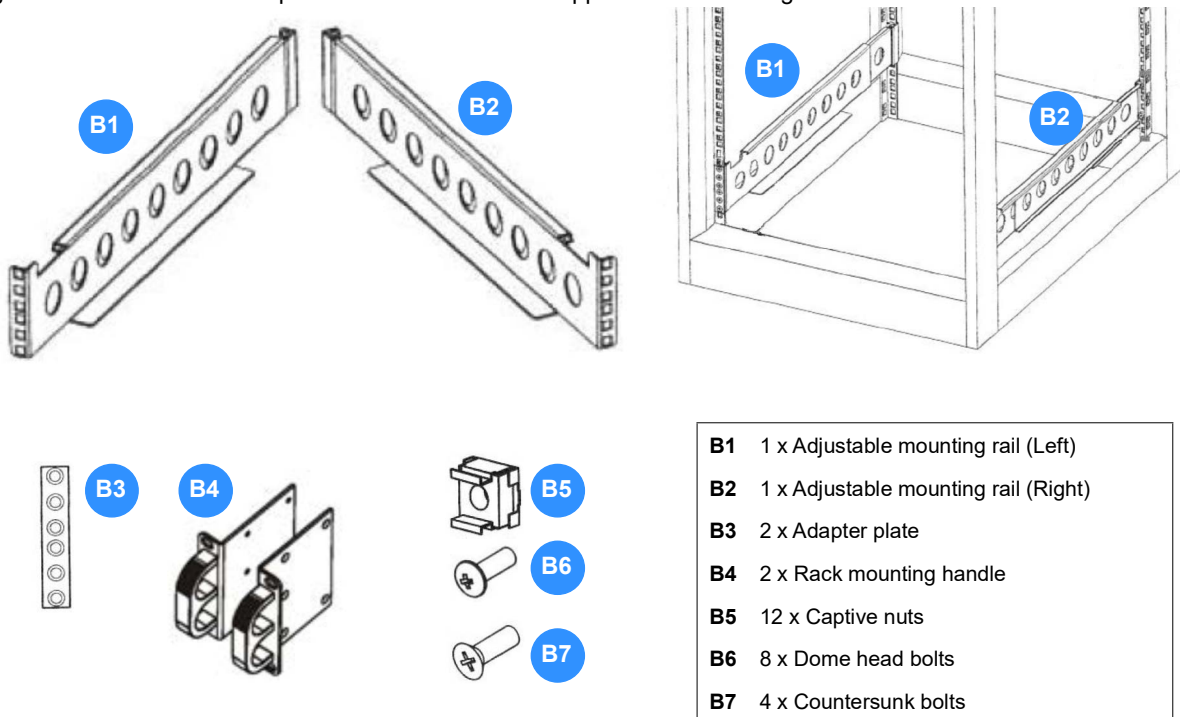

Figure 3.6 UPS Rack mounting kit
Figure 3.6 illustrates the components contained in the supplied rack-mounting rail kit.
1. Extend the adjustable mounting rail and hold in place (see Figure 3.6).